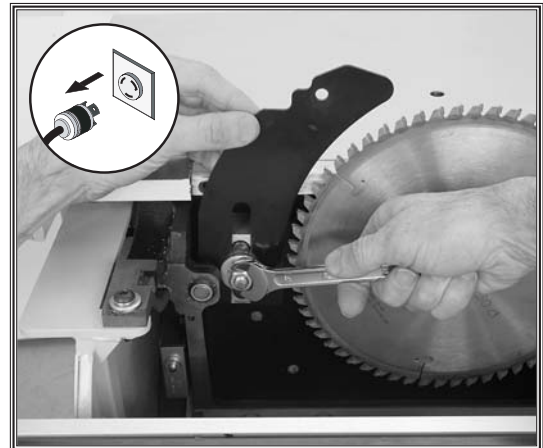

Figure 53. Adjusting the riving knife.
6. Loosen the riving knife center bolt as shown in **Figure 53**.